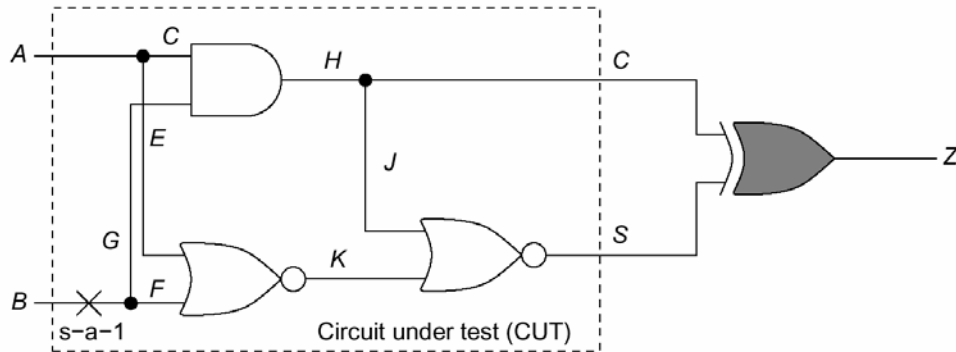

Figure 2. Circuit for Problem 2.
2. Consider the circuit under test (CUT) with two outputs C and S , shown in Figure 2. We desire a test that will detect a target fault at any one output but not at both outputs. To enforce this in the ATPG, Figure 2 gives an ATPG model circuit in which the two outputs of the CUT are combined into an XOR gate (shown shaded) to produce an output Z .